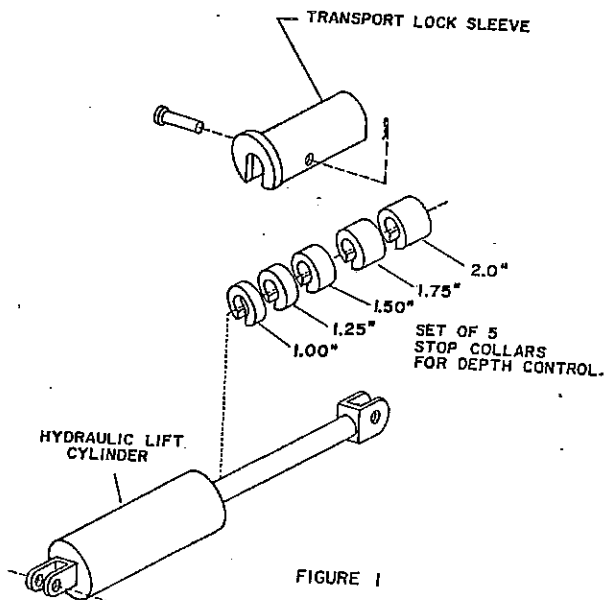

FIGURE 1
Cycle lift cylinder(s) (and hitch swing cylinder on 950) several times. See figure 1. With the Disk Plow in the raised position install the U-shaped transport lock sleeve(s) (painted yellow) on the cylinder rod(s) of hydraulic cylinder(s). Make sure the transport lock sleeve(s) are on both cylinders of the 1400 and 1600. At this time snap a set of 5 stop collars onto the square tube(s) directly to the front of the lift cylinder(s).
1. Install stop collars (see figure 1) on the lift cylinder(s) for a length of 6" (make sure exactly the same length is used on both cylinders of the 1400 and 1600).